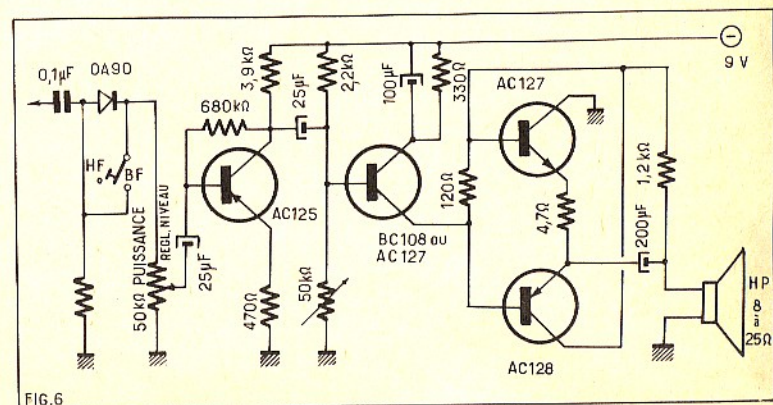

FIG.6
e) Le signal tracer amplificateur (figure 6)